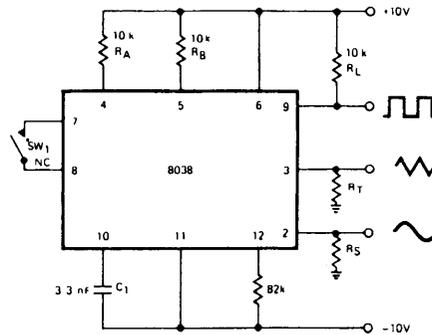

図 2
**NOTE 5:** Fig. 2, pins 7 and 8 connected, VSUPP = ±10V. See Fig. 6c for T.C. vs VSUPP.
NOTE 1: The hi and lo frequencies can be obtained by connecting pin 8 to pin 7 (fhi) and then connecting pin 8 to pin 6 (flo). Otherwise apply Sweep Voltage at pin 8 (2/3 VSUPP + 2V) ≤ VSWEEP ≤ VSUPP where VSUPP is the total supply voltage. In Fig. 2, pin 8 should vary between 5.3V and 10V with respect to ground.